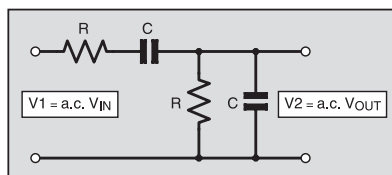

Fig.1. The basic Wien circuit. Note, V_{OUT} is in-phase with V_{IN} when a.c. frequency $f = 1/2\pi RC$.
In the early days of telegraphy by wires, Wheatstone produced a d.c. bridge-circuit for the measurement of electrical resistance. By adding two capacitors to Wheatstone's bridge, Wien converted it to an a.c. bridge capable of measuring capacitance, inductance, and frequency. Wien's dual resistor/capacitor (RC) circuit as shown in Fig.1 was later adopted as the feedback circuit by which to convert an amplifier into an oscillator.